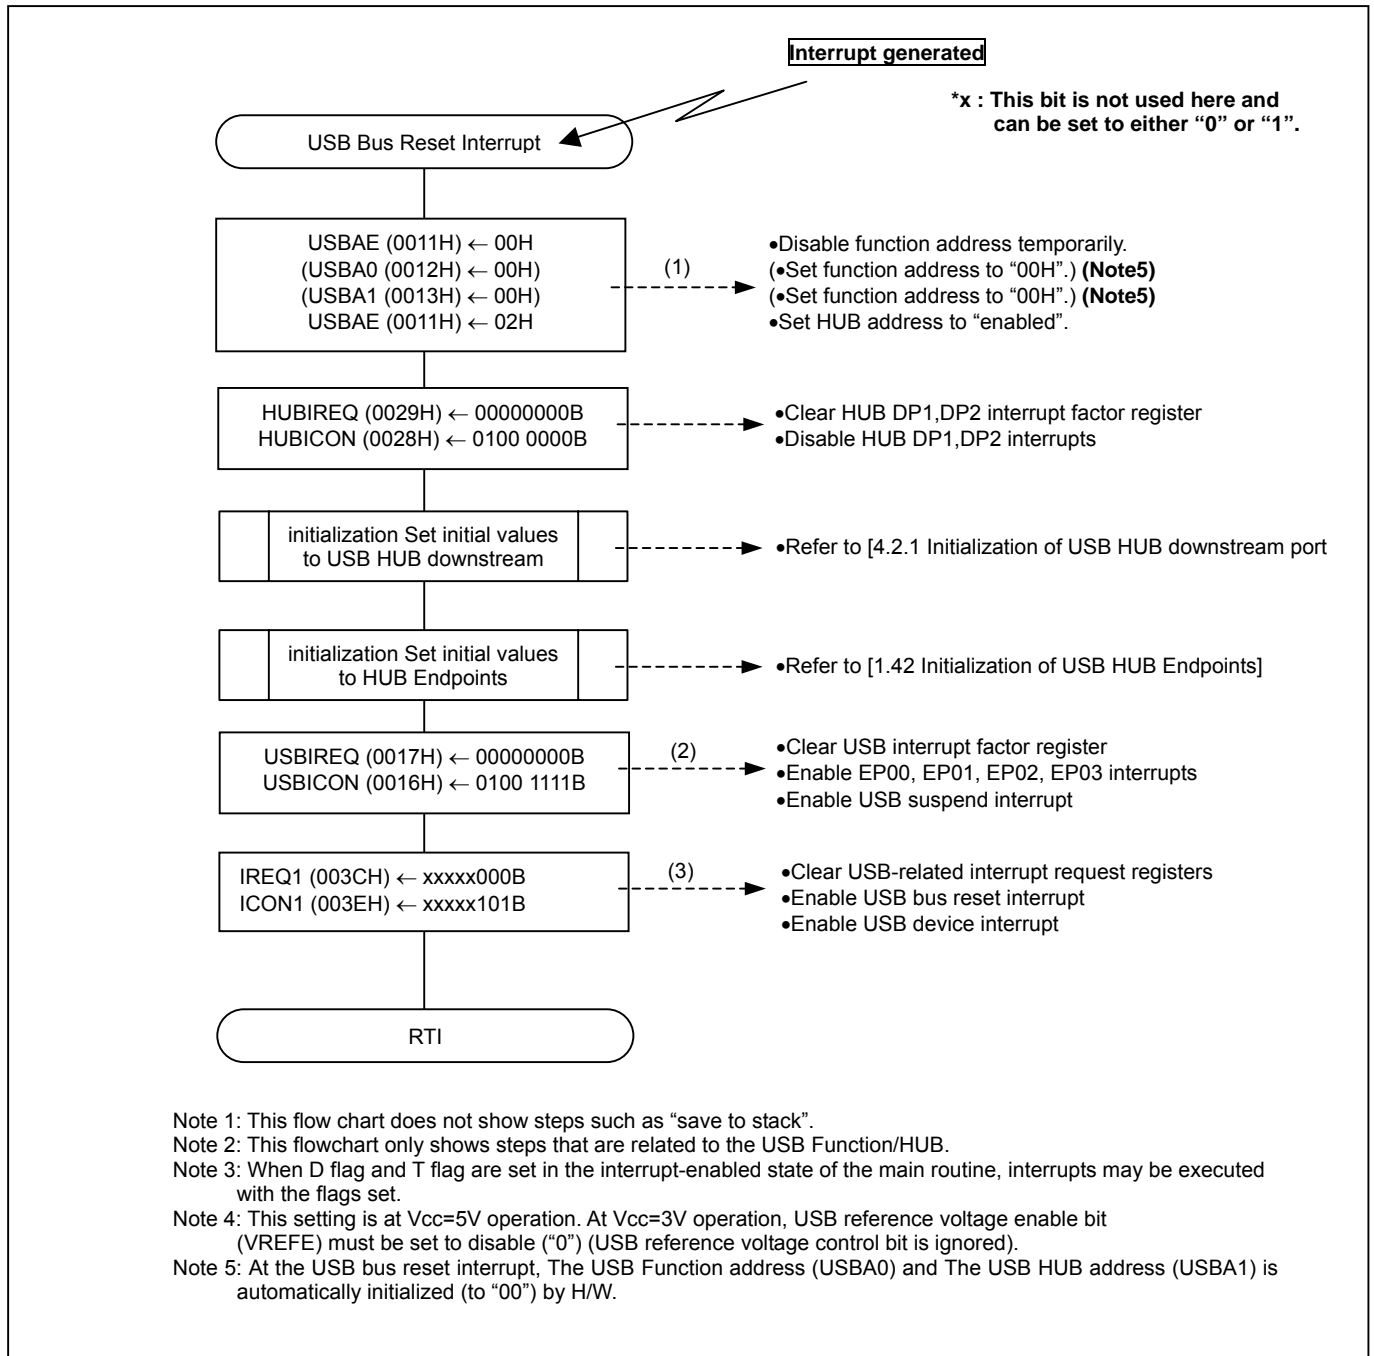

Figure 2.2 Example of USB Bus Reset Interrupt Routine
The USB bus reset interrupt is generated when SE0 continues for 2.5 μ s or more on the USB bus. Table 2.3 lists registers related to USB devices and Figure 2.2 shows an example of the USB device interrupt routine.
(5) USB bus reset interrupt routine
• Figure 2.2 shows an example of the USB bus reset interrupt routine.
The following are detailed descriptions of the steps shown in [Figure 2.2 Example of USB Bus Reset Interrupt Routine].